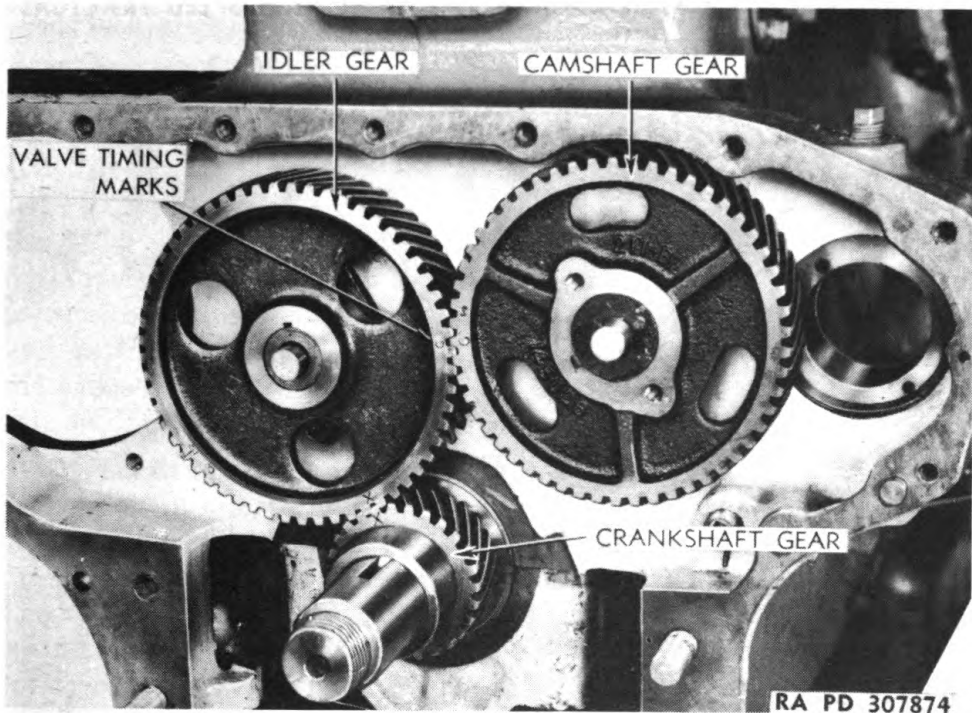

Figure 68 – Valve Timing
e. Install Camshaft and Idler Gear Assemblies. Install valve lifters in holes in crankcase. Install idler gear spindle bushing adapter assembly in end of cylinder block with two self-locking cap screws (fig. 29). *CAUTION: These cap screws will be damaged if too much force is used on wrench when tightening them.* Slip thrust washer on spindle and insert spindle into adapter, engaging idler gear with crankshaft gear so that the tooth marked "X" on idler gear registers with tooth marked "X" on crankshaft gear (fig. 68). Insert camshaft through camshaft bushings in cylinder block (fig. 28) and mesh camshaft gear with idler gear so that tooth marked "C" on camshaft gear registers with tooth marked "C" on idler gear (fig. 68). Install large expansion plug in end of cylinder block at end of camshaft (fig. 26).